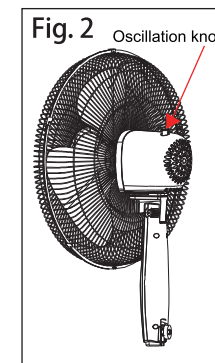

Fig. 2 Oscillation knob
- To set the fan into oscillation, press down the oscillation knob on top of the motor housing (Fig. 2). The fan head will pivot from one side to the other.